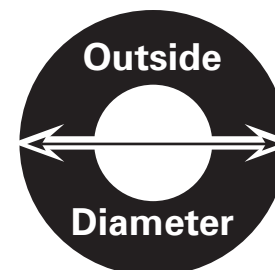

Figure 34 - Measure Outside Tire Diameter
2. Measure the outside tire diameter, see figure 34, and enter this diameter manually using the keypad.